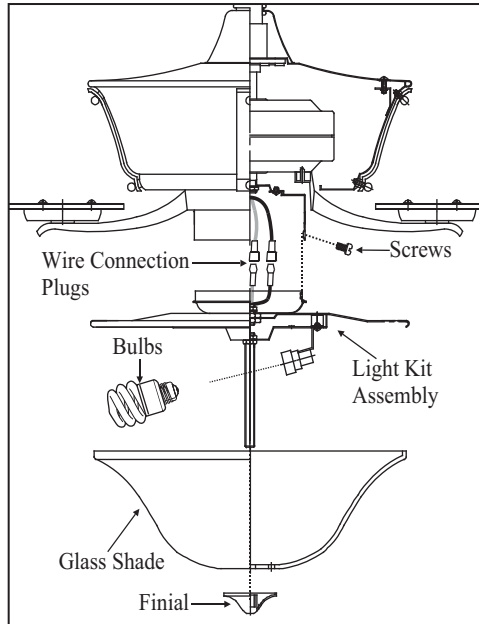

Figure 20
1. While holding the light kit assembly under your fan, Make the polarized plug connections: (Fig. 20)
2. Carefully push all wires back into the switch housing, then install the light kit assembly onto the mounting plate with 3 screws provided. Be sure to tighten all screws. (Fig. 20)
3. Install 2 x 13 watt (Max.) compact fluorescent bulbs (included). (Fig. 20) **NOTE:** CFL bulbs are **NOT** dimmable.
4. Place glass shade over the light kit and secure it with the finial provided. **DO NOT OVER TIGHTEN.** (Fig. 20)